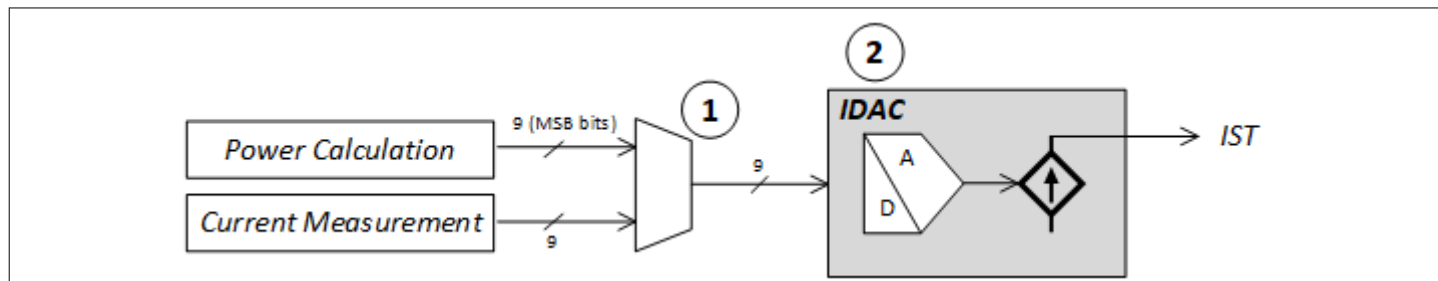

Figure 12 AMON generation
As shown in Figure 12, information is taken from the IOUT data path and PIN data output, which goes into a digital multiplexer (1), configurable by means of the TELEMETRY_CFG PMBus® command. The output of the multiplexer then